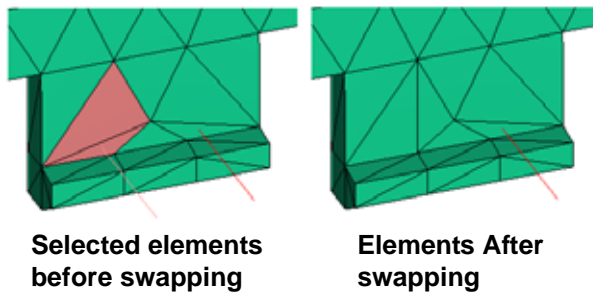

Figure 17: Swapping edges
- Figure 17 shows elements before and after swapping.